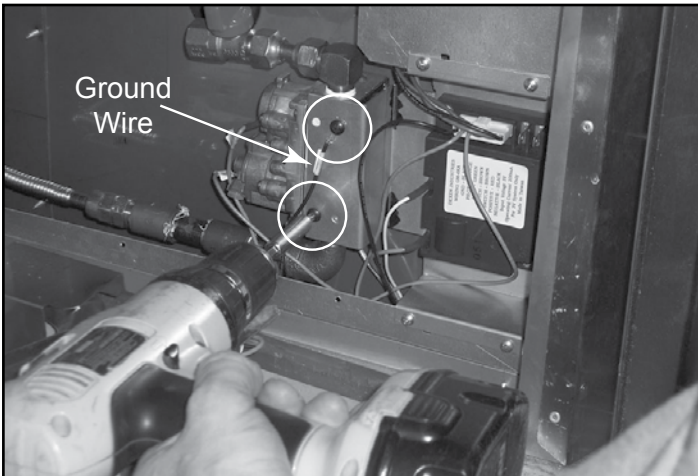

Figure 12.8 Remove Valve from Valve Bracket
- Reverse these steps to replace the gas valve and covers. Make sure the ground wire is reattached as shown in Figure 12.8.